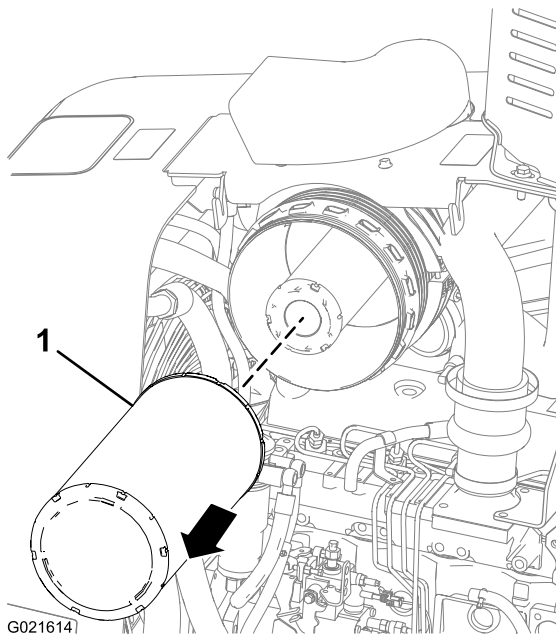

Figure 50
2. Pull the primary air-cleaner element outward and remove it from the air-cleaner housing (Figure 50).
6. Insert the new primary air-cleaner element into the air-cleaner housing (Figure 50).